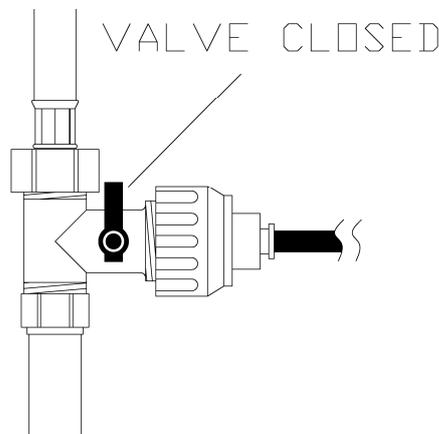

Fig 1.
2. Turn the lever on the isolator (A) to the closed position (fig 1.) Allow the mixertap to run until no water flow through it. Note: for customers with the previous version of the filter system, close the water off by turning the handwheel on the saddle valve.
3. Whilst holding the filter head (B) turn the filter cartridge (C) 90° then pull it away from the filter head (B).